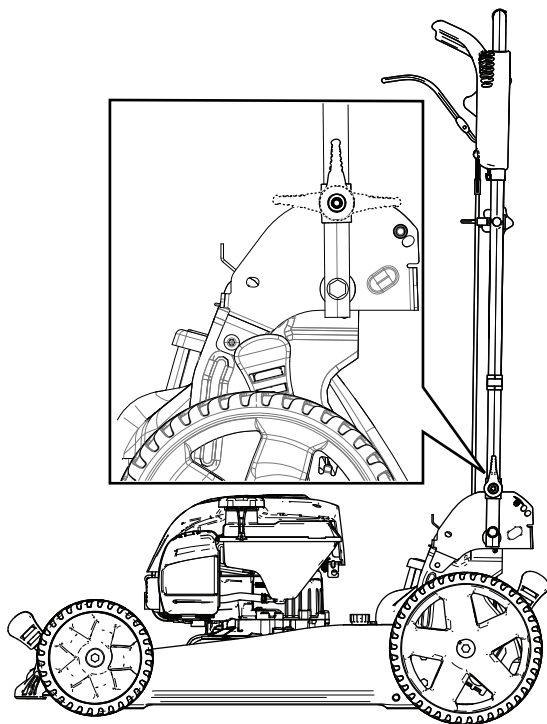

Figure 20
2. Fold the handle forward either to the vertical position or the fully forward position as shown in Figure 20.